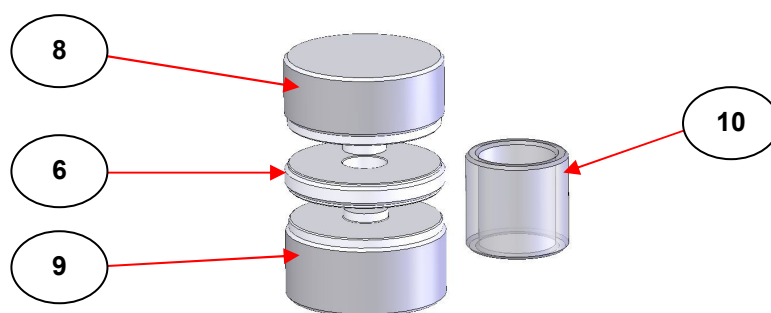

Fig 1. 7mm Pellet Die Assembly Complete
A complete 7mm pellet die assembly consists of a central pellet ring holder (6), top anvil (8), a bottom anvil (9) and a clear Perspex extractor ring cap (10). (See Fig 1.) The top anvil (8) has a longer central “plunger” section than the bottom anvil (9).
The top anvil (8) is then placed carefully over the hole with the sample mixture (build sequence as shown in Fig 1.) and the powder/mixture is compressed between the top anvil (8) and bottom anvil (9) plunger pressing surfaces, when the complete 7mm pellet die assembly with a sample is transferred to the 2T Mini-Pellet Press for pressing.
*It is **very important** that the plunger pressing tip of the top anvil (8) is placed correctly within the hole of the pellet ring holder (6) and remains in position from transfer of the complete die assembly into and prior to compression of any load being applied from the 2T Mini-Pellet Press. Any KBr mixture should be sufficiently soft to allow for some partial pre-compression by hand to allow the plunger tip to be located correctly as required. If any of the 7mm pellet die parts become damaged because of clear evidence of incorrect use and care during the sample preparation process for pressing, **any warranty period on the die assembly will be rendered null and void.***